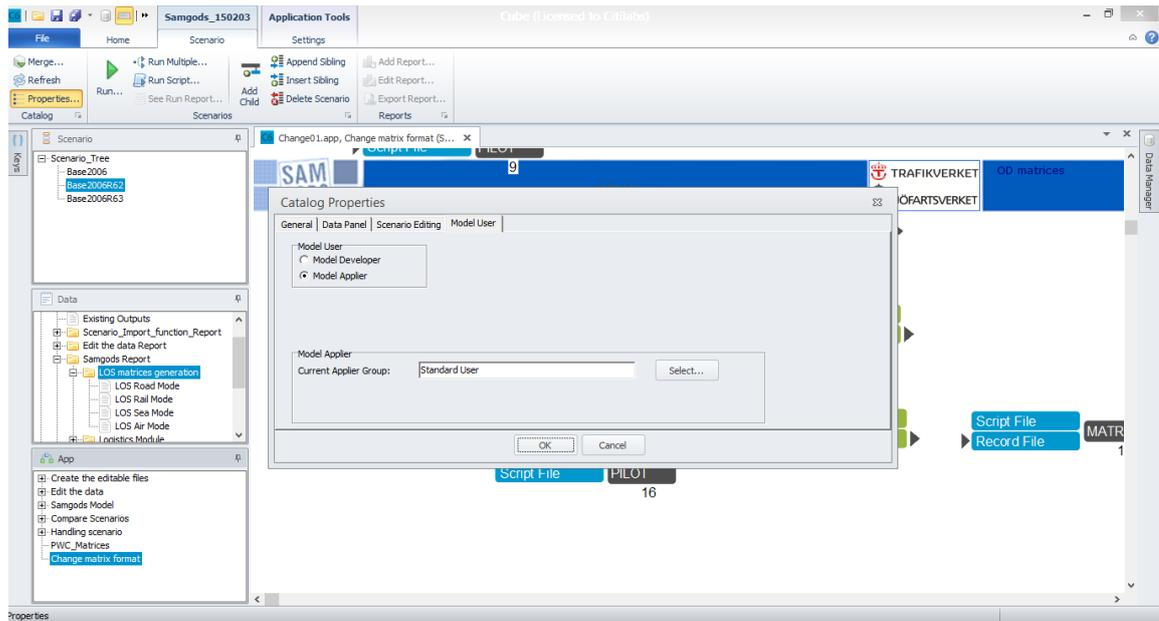

Figure 23 How to set the model to Model Applier>Standard user mode.
- In the Catalog Properties window, select the “Model User” tab (see Figure 23)